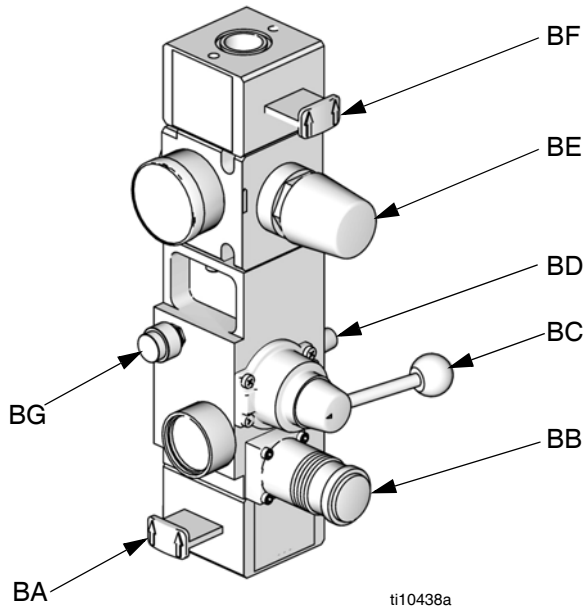

FIG. 3. Integrated Air Controls
| G | Integrated Air Controls (see FIG. 3) | U | Air Line Drain Valve (not supplied) |
- G Integrated Air Controls (see FIG. 3)